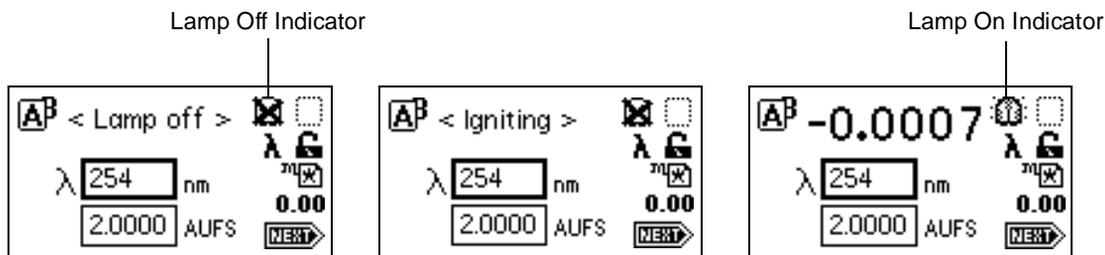

Figure 3-42 Lamp Off/On Sequence
2. Press **Lamp (Shift 1)** again to turn the lamp off. The Absorbance screen is displayed, with an X through the lamp indicator icon, and the display shows the words “Lamp off.” See Figure 3-42.
2. Press **Lamp (Shift 1)** again to turn the lamp on. The Absorbance screen is displayed with the message “Igniting” (Figure 3-42). The lamp may take up to one minute to illuminate. Once the lamp is illuminated, the display returns to the Absorbance screen with the X removed from the lamp icon.